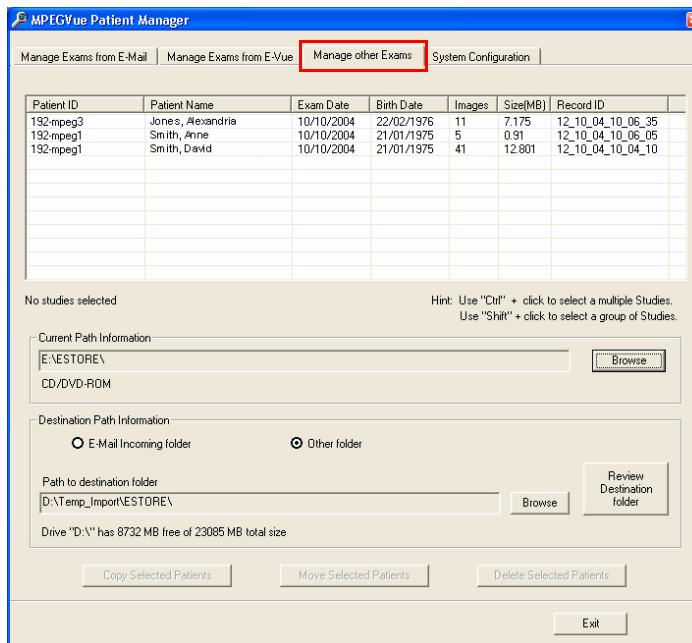

Figure 3-191 MPEGVue Patient Manager Window - Manage Other Exams Tab
- a.) Make sure the Manage Other Exams tab is activated as shown in Figure 3-191.
Once the user has specified any source directory that contains MPEGVue studies (these may be located on CD/DVD-ROM, DOK or any local hard drive), exam details are displayed (in table format) in the Patient List. The information shown includes *Patient ID*, *Patient Name*, *Exam Date*, etc. as seen in the example in Figure 3-191, above.